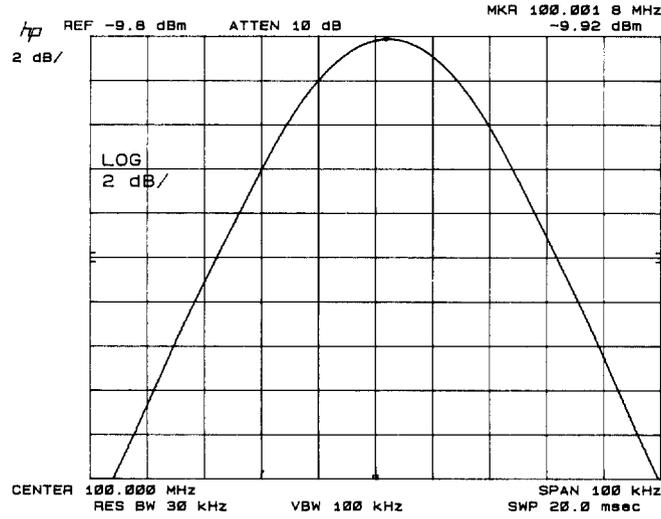

FIGURE 8. LOG SCALE SWITCHING UNCERTAINTY MEASUREMENT
6. Step up through the log scales with . At each step, press MARKER , then record the marker amplitude in Table 8. Refer to Figure 8.